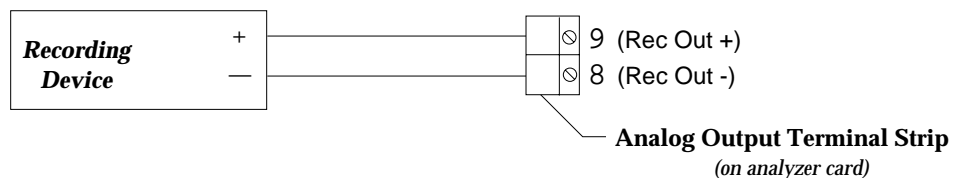

Figure 3-6: Recorder Output Wiring
3. Connect the leads from the recording device to the analog output terminal strip as shown in Figure 3-6.